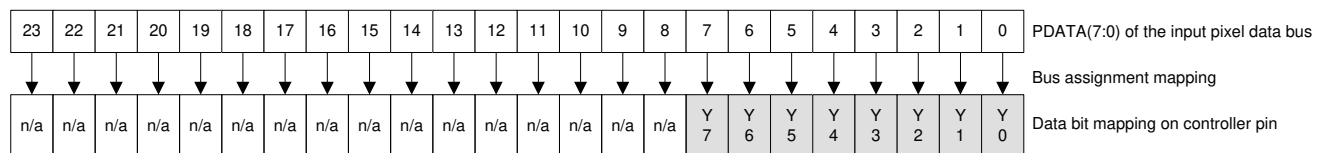

Figure 6-9. BT.656 Interface Mode Bit Mapping
- (1) Calculate clock jitter (in ns) using this formula: $Jitter = [1 / f_{clock} - 5.76 \text{ ns}]$. Clock jitter must maintain setup and hold times. BT.656 data bits must be mapped to the DLPC3470 PDATA bus as shown in Figure 6-9 shows BT.656 bus mode YCbCr 4:2:2 source PDATA (23:0) mapping.
- (2) The BT.656 interface accepts 8-bits per color, 4:2:2 YCbCr data encoded per the industry standard through PDATA(7:0) on the active edge of PCLK. See Figure 6-9.